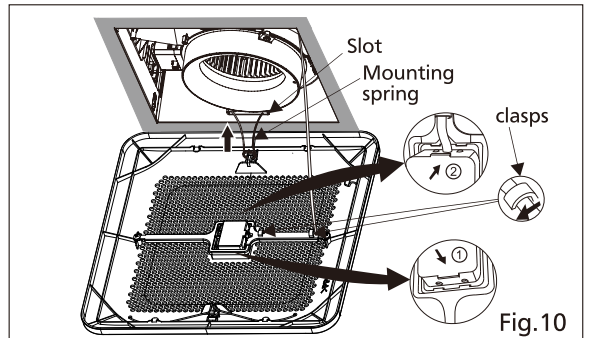

Fig.10
12. Insert the sensor unit into the slot of the grille; fix the lead wire of sensor unit into the clasps (2 points)(Fig.10).
13. Insert one mounting spring into slot as shown in Fig.10. (If not, the grille may not be installed.)